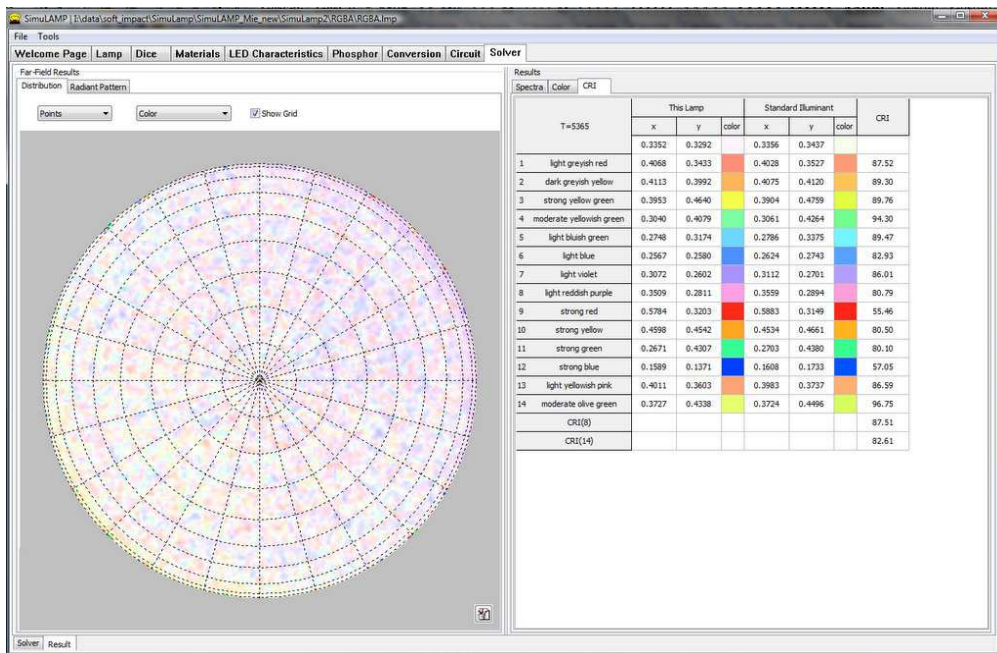

Fig. 32
- **CRI tab** (see Fig.32) presents color coordinates and CRI for 14 standard test color samples for the standard illuminant and for the modeled lamp. The values for the standard illuminant present the actual sample colors, while the values for the modeled lamp demonstrate the resulting color of the given sample illuminated by the modeled lamp.